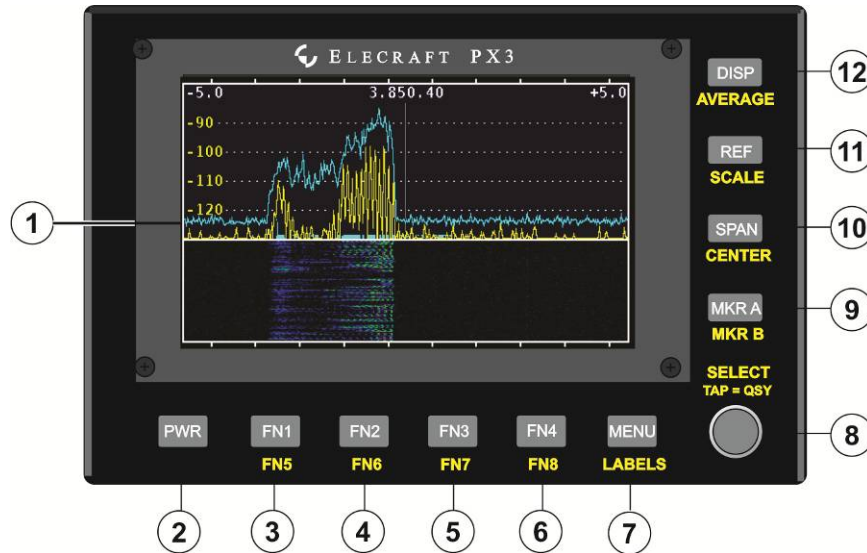

Figure 1. PX3 Front Panel.
<p>The Basics</p>	<p>⚠ TAP AND HOLD: Most PX3 switches have two functions, similar to the KX3. Tap (press briefly) to activate the function labeled on the switch. Hold (press for 1/2 second) activates the function labeled below the switch. In the text, tap functions are shown like this: DISP while a hold function is shown like this: AVERAGE. Additional typographical conventions are shown on the previous page.</p> <p>The controls and indicators shown in Figure 1 are identified by the circled numbers in the following text (e.g. ① refers to the display screen).</p> <ul style="list-style-type: none"> • Apply power to the PX3 and tap PWR ② to turn it on. • Tap DISP ⑫ to cycle between spectrum and waterfall display modes (Page 15). • Activating many functions enables the SELECT knob ⑧ so you can adjust the parameter associated with the function. The current parameter value is shown on the screen ①. You can exit and save the parameter by tapping the same key a second time, even for hold functions. • For hold functions, you can also hold the key a second time to exit parameter-entry mode. Holding the four keys along the right edge of the front panel ⑨,⑩,⑪,⑫, a second time de-activates the function itself. For example, holding CENTER ⑩ a second time returns the display center frequency to the transceiver frequency and holding MKR B ⑨ a second time turns off marker B.